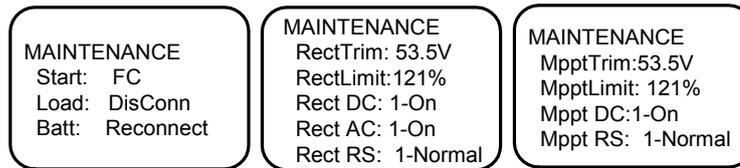

Figure 4-22 Maintenance screen
3. Input the password and press the **ENT** key to enter the **Maintenance** page, as shown in Figure 4-22.